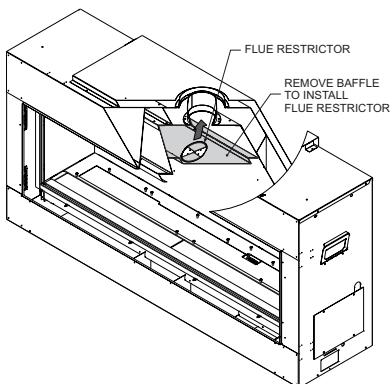

Figure 38
For installation of the restrictor after the venting is installed, remove (2) screws from each end of the flue baffle and set aside. Insert the restrictor up into the flue collar and position it as shown in **Figures 38 and 39**. Then, re-install the flue baffle.